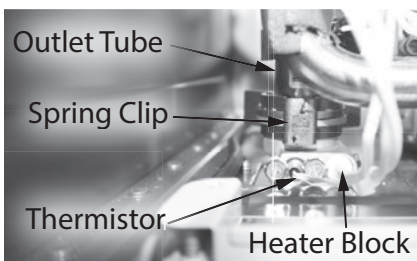

Figure 225 - Outlet tube location
17 Locate the spring clip (size 30) at the base of the outlet tube. See Figure 225. Remove and set this clip aside in a safe place for reinstallation.
19 Locate the two (2) screws securing the thermistor and heating block to the outlet assembly. Use a Phillips screwdriver to remove the screws. Place screws aside in a safe place for reinstallation. See Figure 225.